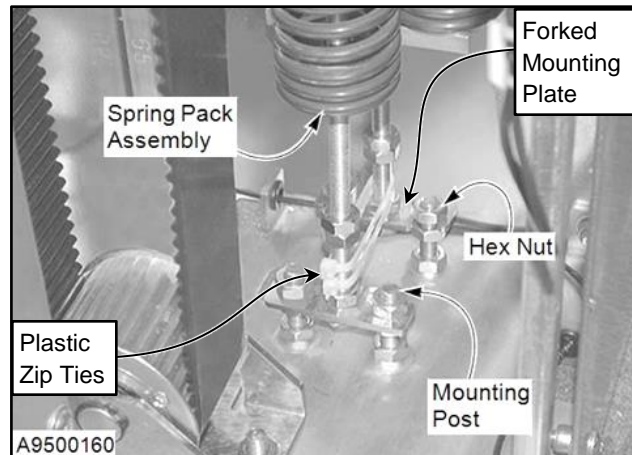

Figure 79
12. Attach the spring pack to the mounting posts on the base plate. Tighten the lower nuts against the bottom of the mounting plate to retain the preload setting of the spring pack. (See Figure 79)
4. Disconnect the old spring pack assembly from the base plate. The spring pack is held in place by two hex nuts threaded onto a pair of mounting posts. (See Figure 79)
8. Attach the spring pack to the mounting posts on the base plate. To retain the preload setting, tighten only the lower nuts against the bottom of the mounting plate — do not adjust the upper pair of nuts. (See Figure 79)